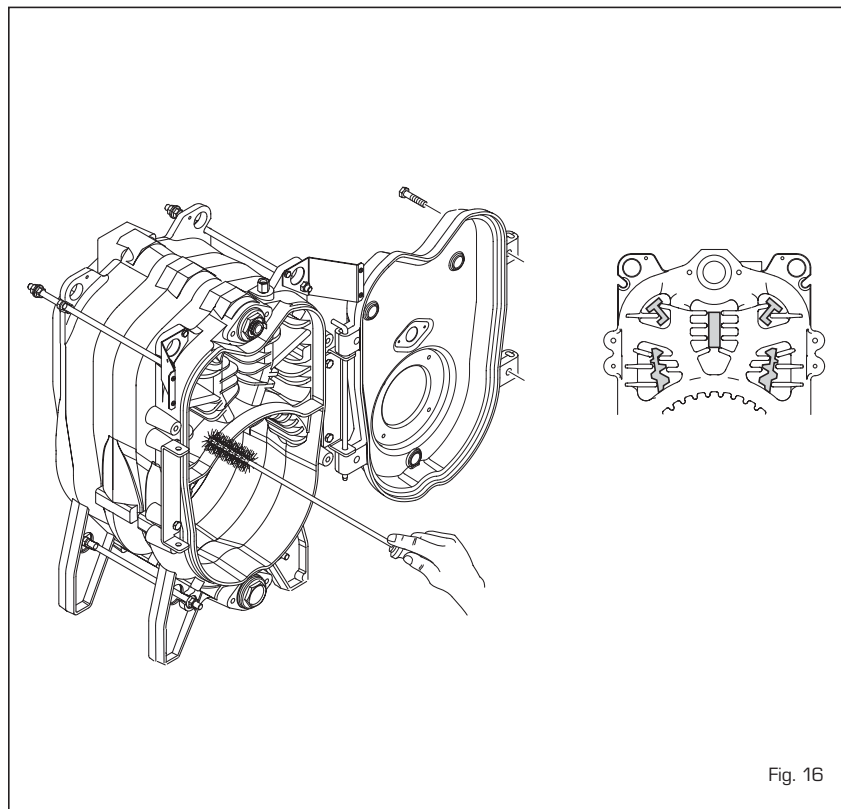

Fig. 16
4.7.1 Cleaning smoke ducts (fig. 16)
Use an adequate swab for cleaning the smoke ducts of the boiler. After cleaning, position the circulators in their original position (fig. 16).